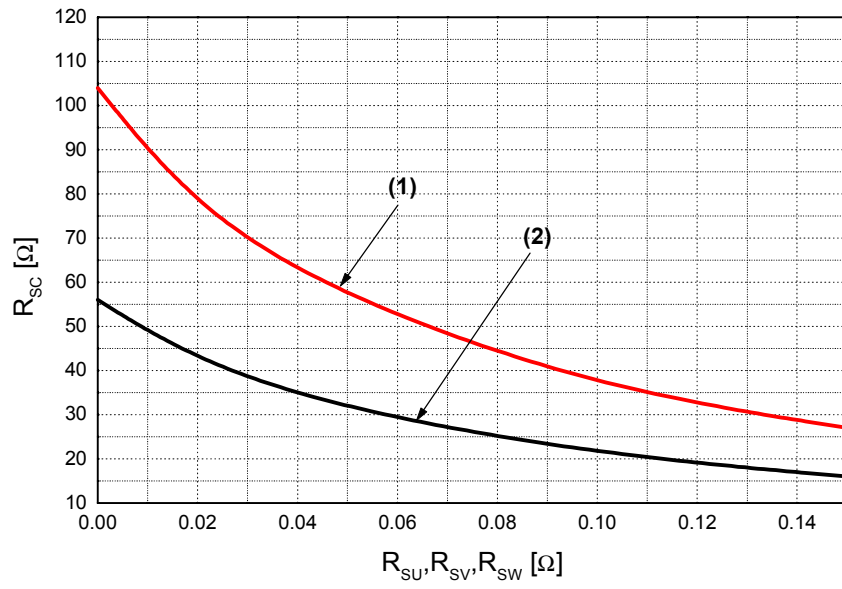

Fig. 6. R_{SC} Variation by change of Shunt Resistors (R_{SU}, R_{SV}, R_{SW}) for Short-Circuit Protection
5. Short-circuit current protection is functioning only at the low-sides. It would be recommended that the value of the external sensing resistor (R_{SC}) should be selected around $56\ \Omega$ in order to make the SC trip-level of about 15A at the shunt resistors (R_{SU}, R_{SV}, R_{SW}) of $0\ \Omega$. For the detailed information about the relationship between the external sensing resistor (R_{SC}) and the shunt resistors (R_{SU}, R_{SV}, R_{SW}), please see Fig. 6.